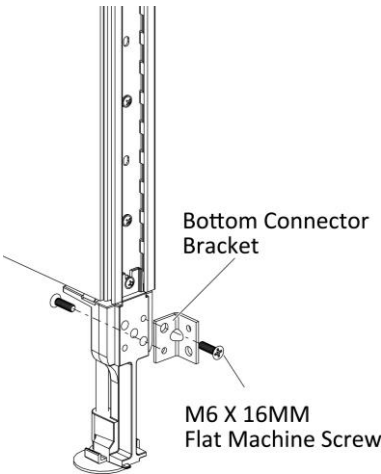

Figure 5
- 8. Position the bottom corner bracket to the third panel and securely fasten it to the panel leg with two M6 X 16MM Flat Machine Screws, (Figure 5).